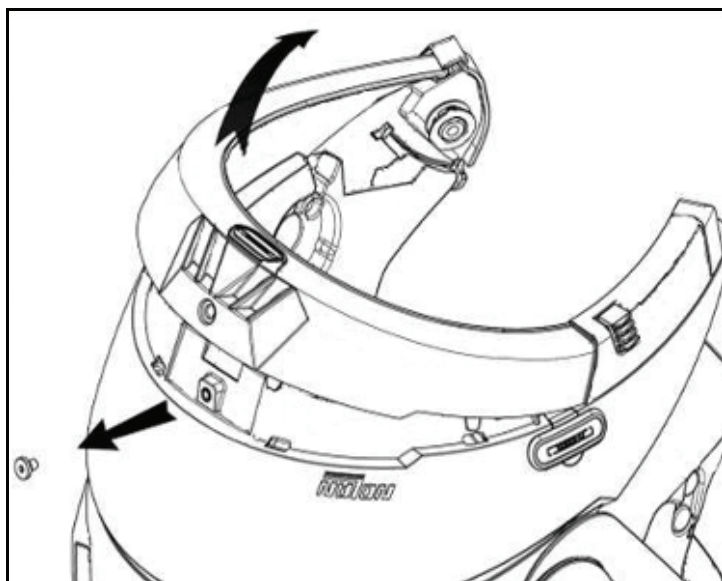

Fig. 1
- Remove the helmet edge gasket using the special tool (Fig. 1).
- Completely remove the gasket as shown in Fig. 1; by doing so you also remove the padding.